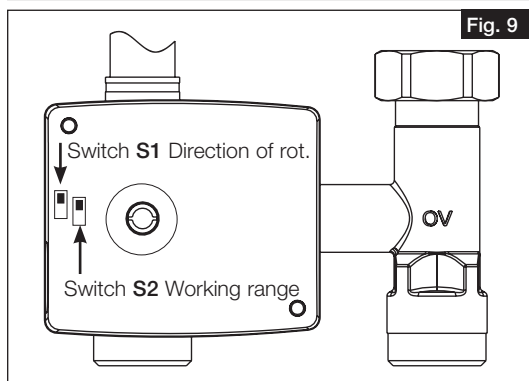

Fig. 9
2. Push the switch to the required position (Fig.9) according to the desired setting